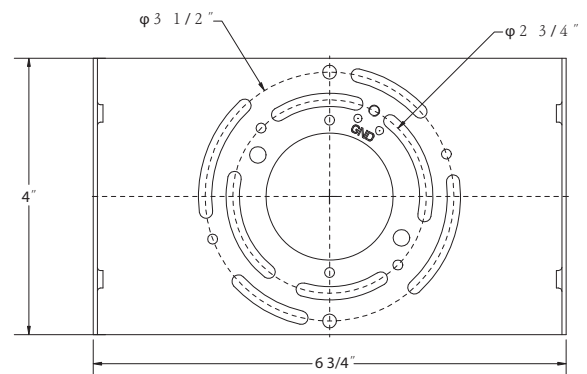

Fig.2 Wiring
CONNECTING THE WIRES (Fig. 2)
7. Connect the driver's input wires to junction box wires as shown in Fig. 2, making sure that all wire connectors (A) are secured. If your outlet box has a green or bare copper ground wire, connect the fixture's ground wire to it. Otherwise, connect the fixture's ground wire directly to the back plate using the GND screw provided. After wires are connected, tuck them carefully inside the junction box.
10. Place the fixture over the mounting back plate and secure it with mounting screws (B) and the rubber gasket (C).